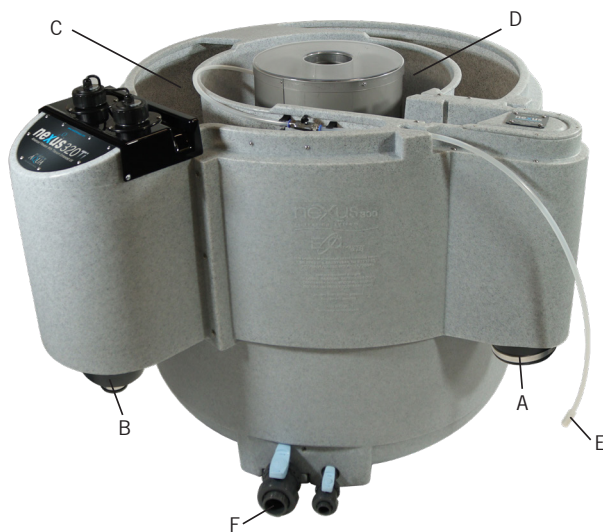

Figure 14
1. Connect the pipework from your pond to the EasyConnector on the NexusTi Inlet (A).
2. Connect your water pump to the 4"- 1½" EasyConnector (B) on the outlet using suitable pipe work. A valve should be positioned between the pump and the NexusTi, to isolate the NexusTi during cleaning.
3. Pour the 2 x 50L K+Media into the outside chamber (C) of the NexusTi (Figure 14).
4. Connect your air pump to the NexusTi air inlet (E).
6. Connect the waste valves (F) to your waste outlet.